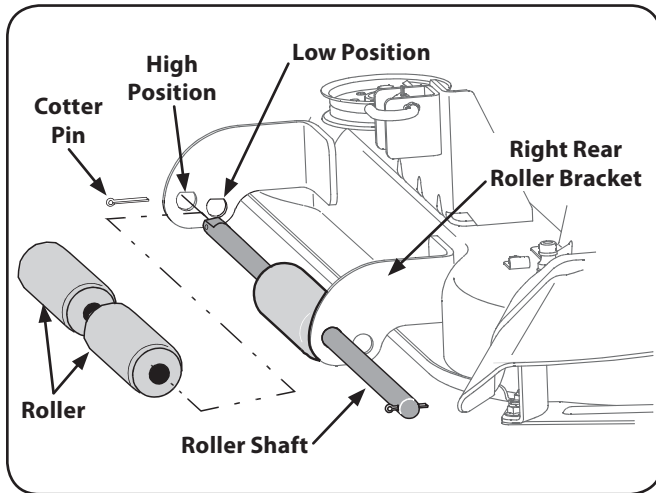

Figure 6-8
1. Remove the cotter pin from the left end of the roller shaft. See Fig. 6-8.
2. Slide the roller shaft to the right and remove the rollers as the shaft is fully withdrawn from the right rear roller bracket. See Fig. 6-8.